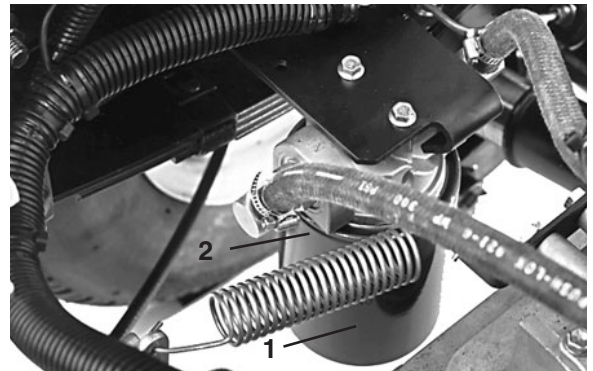

Figure 51
Replacing Hydraulic Filter (Fig. 51)
2. Remove drain plug (Fig. 51) from side of reservoir and let hydraulic fluid flow into drain pan.